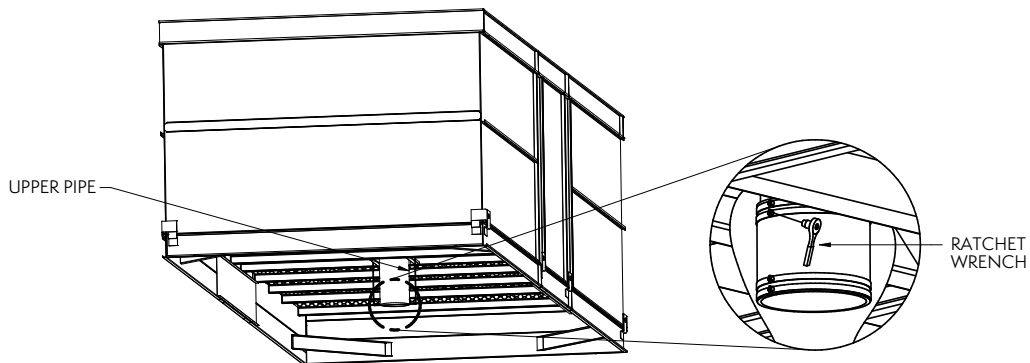

Figure 8 – Casing Bottom Inlet Piping
4. Tighten all pipe clamps. A ratchet wrench is recommended (See **Figure 8**).